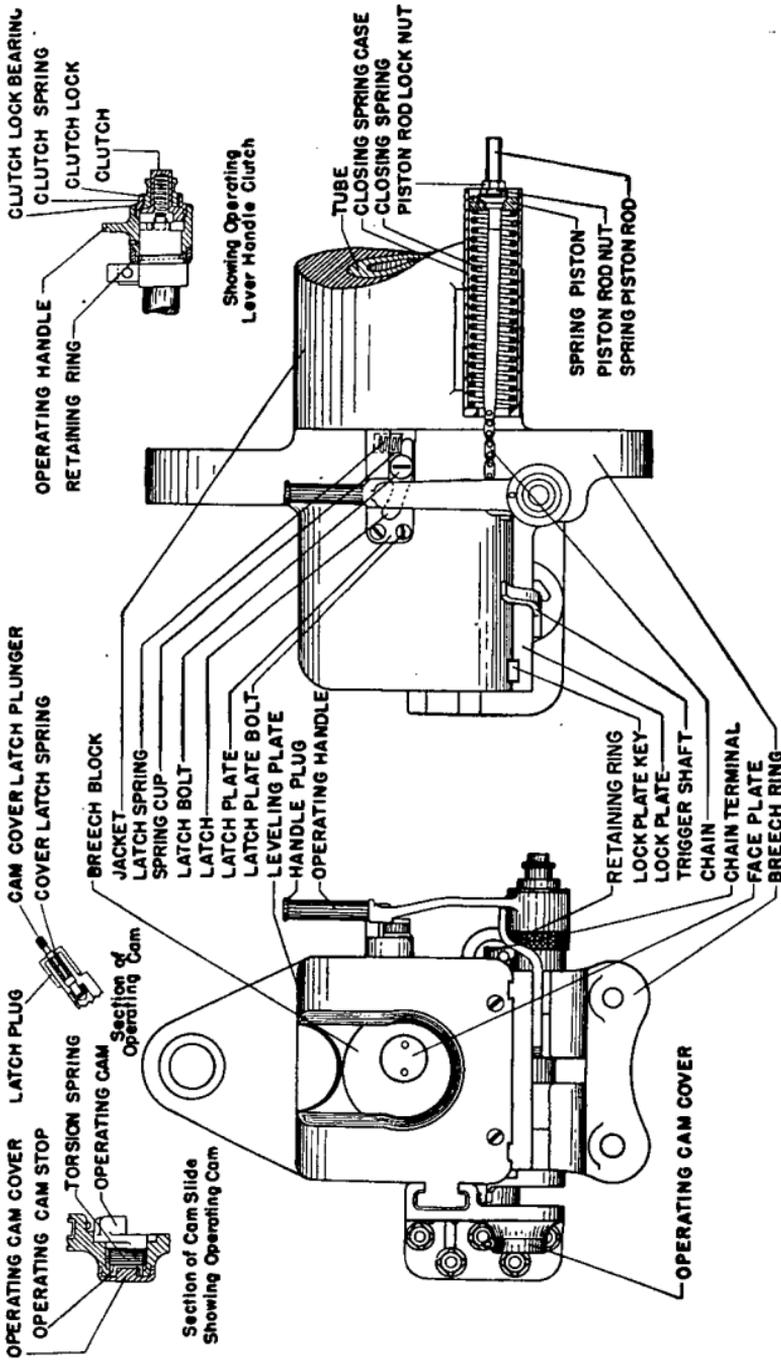

FIGURE 12.—Breech mechanism assembly, 3-inch anti-aircraft gun, M 1917.
b. An eyebolt is screwed in the top of the breechblock and a rope attached thereto. The lock screw for retaining ring (fig. 12) is removed, and the retaining ring turned clockwise (forward) until the operating handle is free to be pulled off the operating lever. After the handle is removed, the breechblock is raised. Meanwhile, another man takes a firm hold on both ends of the operating lever and, as the breechblock rises, pushes the operating lever as far to the rear as the breechblock will allow, thereby disengaging the T-shaped cam from its groove in the breechblock. The breechblock is pulled up as far as it will go and the operating lever removed